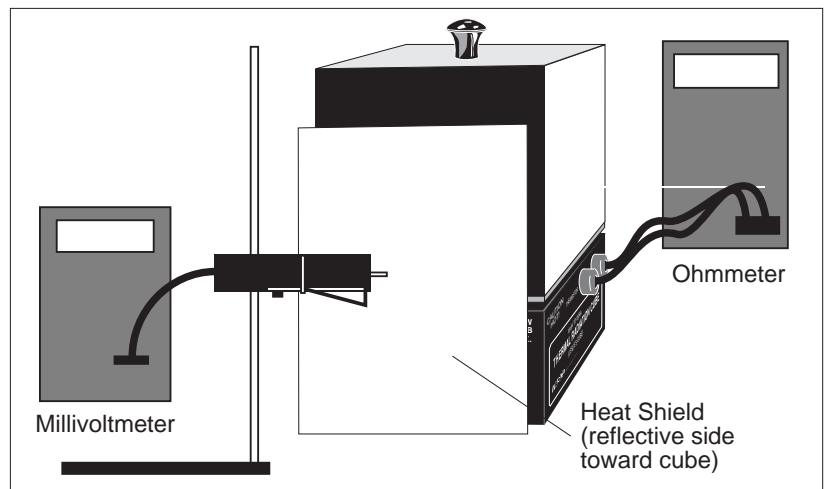

Figure 4.1 Equipment Setup
- ① Set up the equipment as shown in Figure 4.1. The Radiation Sensor should be pointed directly at the center of one of the better radiating surfaces of the cube (the black or white surface). The face of the Sensor should be parallel with the surface of the cube and about 3 to 4 cm away.
- ② With the Thermal Radiation Cube off, measure R_{rm} , the resistance of the thermistor at room temperature. Enter this data in the space on the following page.
- ③ Shield the sensor from the cube using the reflecting heat shield, with the reflective side of the shield facing the cube.
- ④ Turn on the Radiation Cube and set the power switch to 10.
- ⑤ When the thermistor resistance indicates that the temperature is about 12 C° above room temperature, turn the power down so the temperature is changing slowly. Read and record R , the ohmmeter reading, and R_{ad} , the millivoltmeter reading. The readings should be taken as nearly simultaneously as possible while briefly removing the heat shield. Record these values in Table 4.1.
- ⑥ Replace the heat shield, and turn the cube power to 10. When the temperature has risen an additional 12-15 C°, repeat the measurements of step 5. Repeat this procedure at about 12-15° intervals until the maximum temperature of the cube is reached.